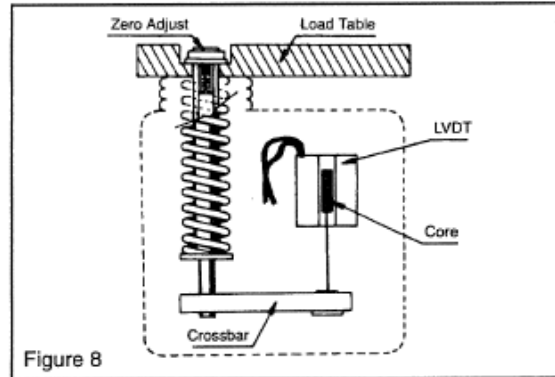

Figure 8
5. If the output is not zero, remove the dust cap located on the load table to gain access to the zero adjustment screw. (See Figure 8)
6. Using a 7/64-inch hex key, turn the zero adjusting screw several turns counter clockwise (CCW). Then, slowly turn the adjusting screw clockwise (CW) until a zero reading is obtained on the voltmeter. If the zero position is passed, turn the adjusting screw counter clockwise (CCW) pass the zero point. Then turn the adjusting screw back in a clockwise (CW) direction until the meter reads zero volt.